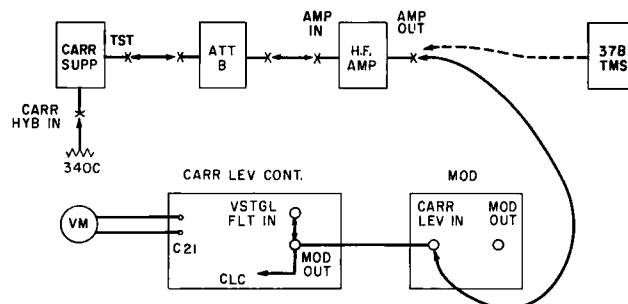

Fig. 26 — Test Arrangement for Checking High-frequency Circuit of Carrier Level Control in T3 Terminal
- (1) Set up test arrangement of Fig. 26, setting ATT B to 33 db. Remove patch plug on CARR SUPP panel. Terminate the CARR